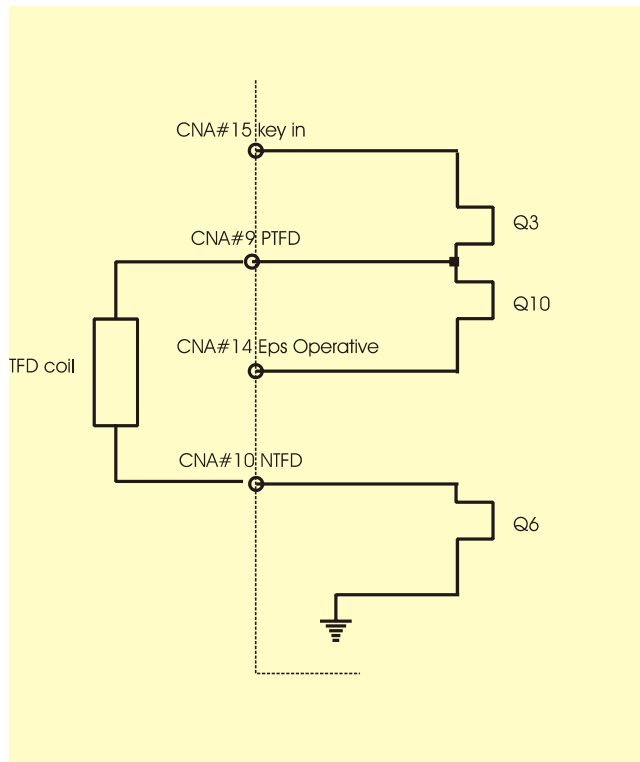

Figure 15.46-1
- Cause: This diagnosis is processed only at key on the Circuit in Fig. 15.46-1. Two tests: